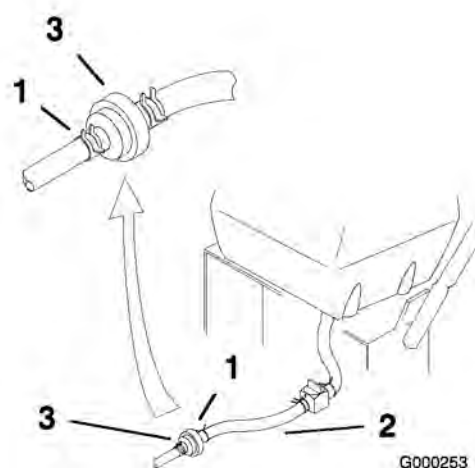

Figure 34
3. Squeeze the ends of the hose clamps together and slide them away from the filter (Figure 34).